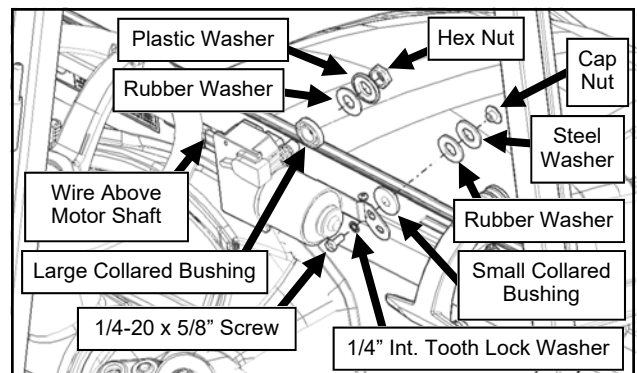

Fig. 16.1 (Windshield Wiper Motor)
- 16.1** Mount the wiper motor to the windshield. See Figure 16.1. Make sure the wires are above the wiper motor shaft to prevent pinching when the windshield moves.